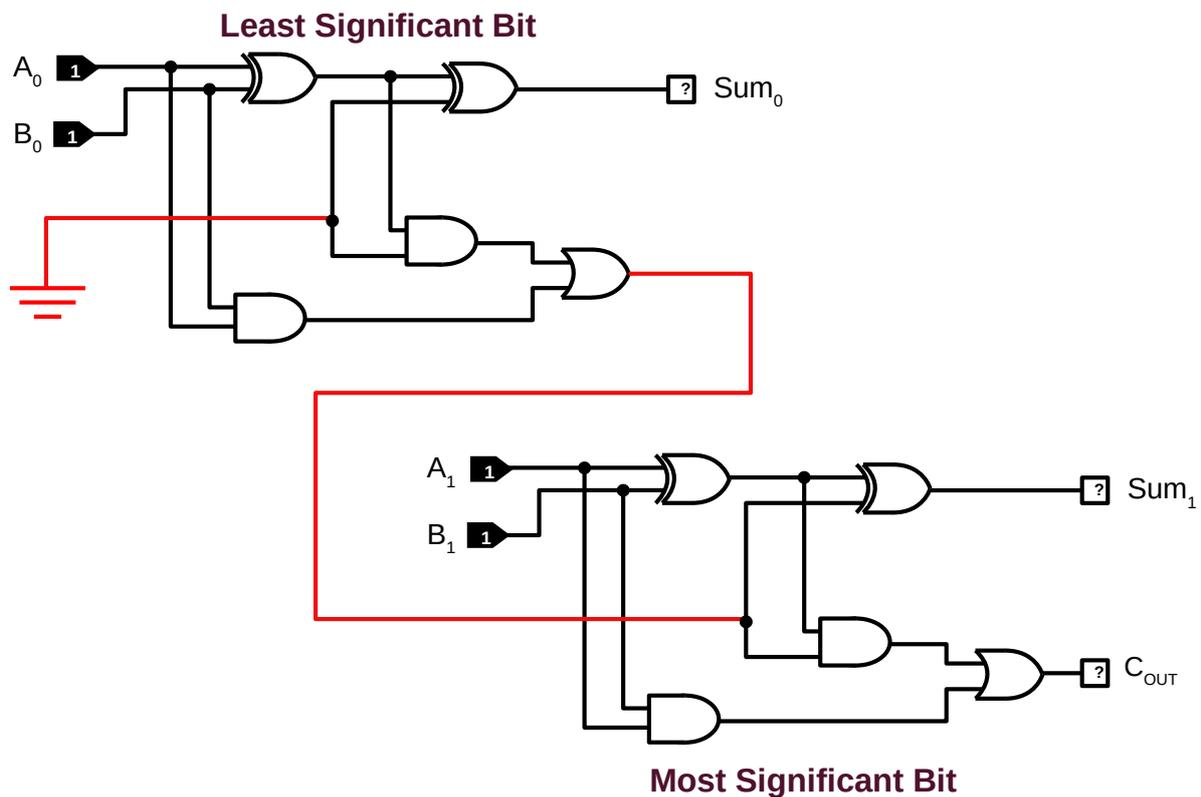

Figure 52: Two bit adder
2. Use the “Block Copy” command make a copy of the full adder to form a schematic of a two bit adder as shown in Figure 52.